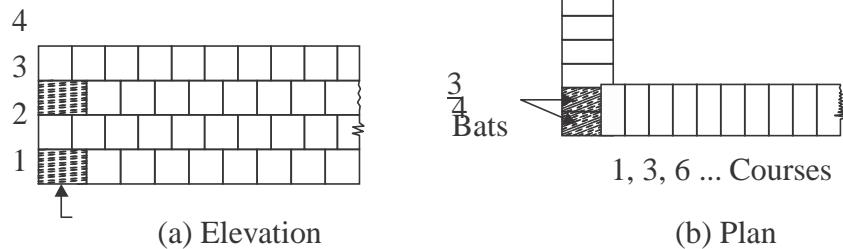

Fig. 2.6.2 Header
**2. Header Bond:** A header is the shorter face of the brick as seen in the elevation. In a standard brick it is  $90 \text{ mm} \times 90 \text{ mm}$  face. In header bond brick masonry all the bricks are arranged in the header courses as shown in Fig. 2.6.2. This type of bond is useful for the construction of one brick thick wall